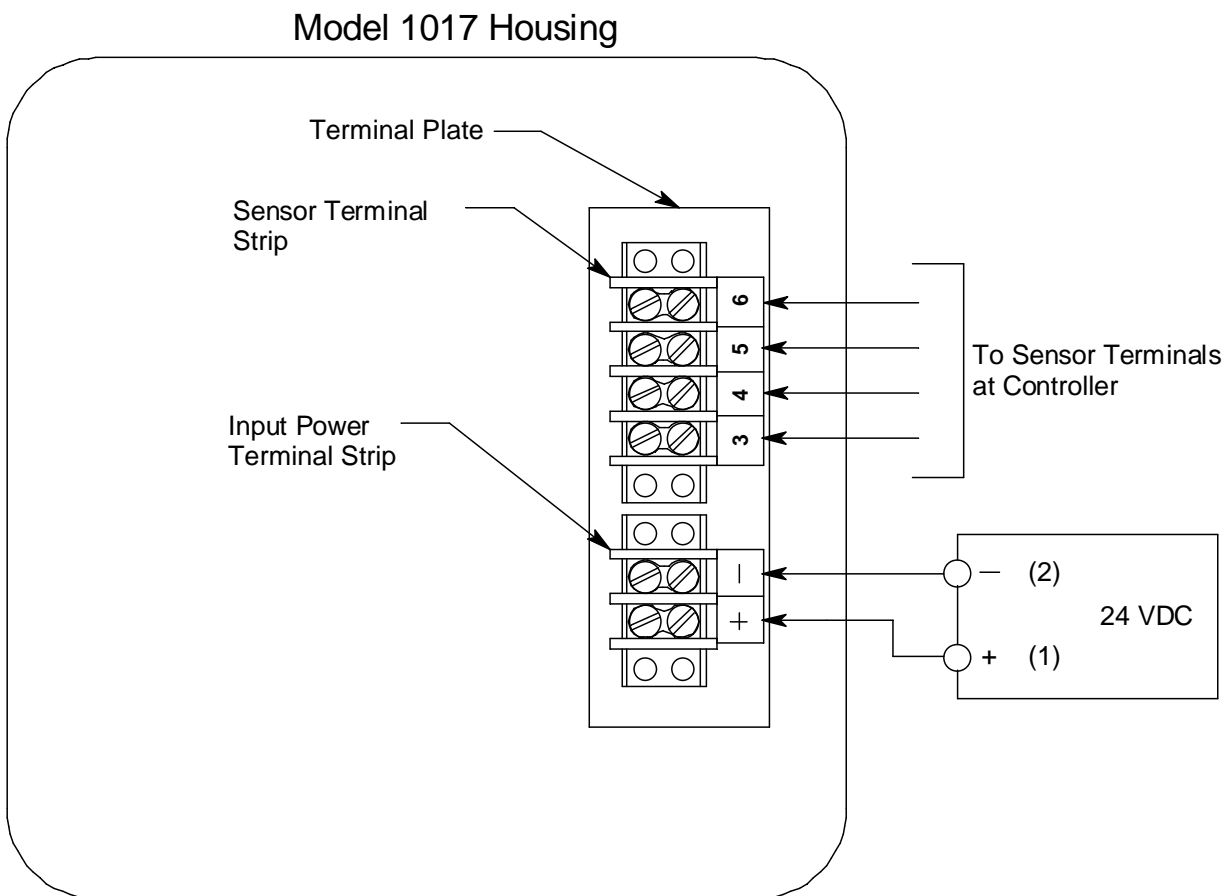

Figure 4: Wiring the Model 1017-06S8
4. Connect two wires to the input power terminal strips as shown in Figure 4.